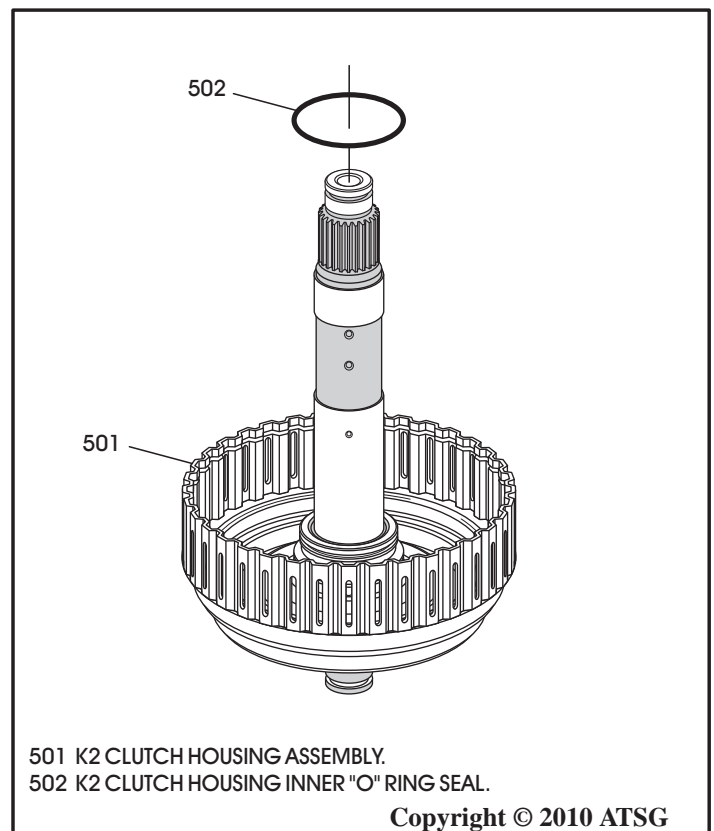

Figure 92
7. Install new inner "O" ring seal into the lower groove in the K2 clutch housing, as shown in Figure 92.